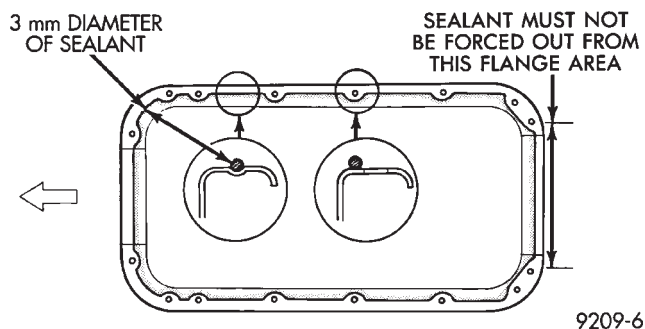

Fig. 3 Oil Pan Sealing
- (1) Apply sealant as shown in (Fig. 3).